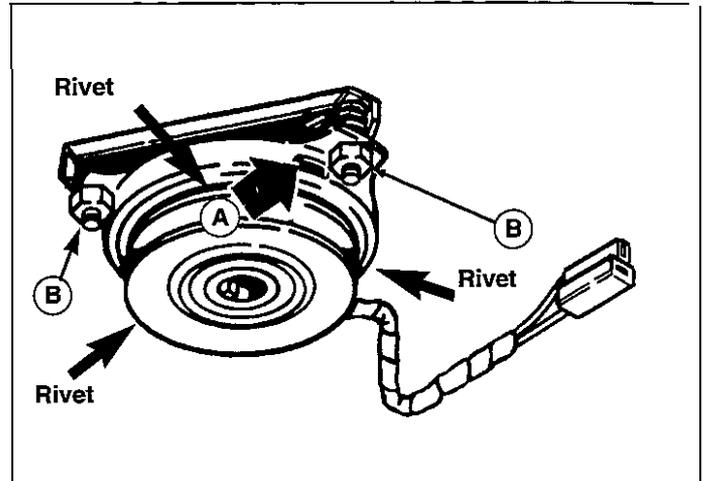

Figure 35. PTO Clutch Adjustment
2. See Figure 35. Note the position of the 3 adjustment windows (A) in the side of the brake plate, then rotate the pulley so that each of the three rivet joints (visible inside the gap between the pulley and the brake plate) is positioned approximately midway between the three adjustment windows.
4. Alternately tighten the adjustment nuts (B, Figure 35) until the rotor face and armature face just contacts the gauge.